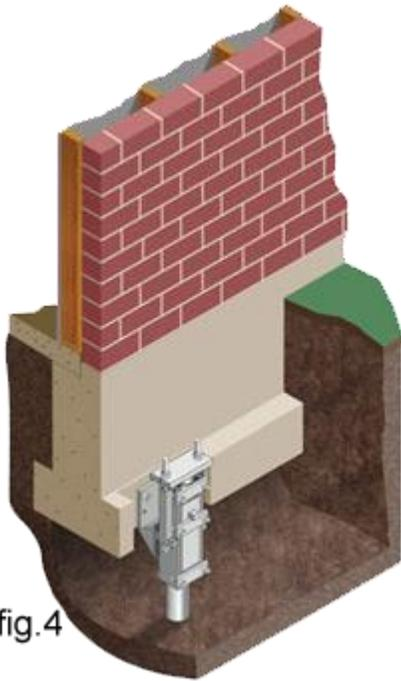

fig.4
8. Restoration: Under careful supervision, the load is transferred from the existing failing strata under the foundation, to the load tested piers. The structure can be transferred gently and evenly lifted to as close to the original elevation or to the recommendation of the engineer. The nuts at the pier caps are secured at each placement and the lifting equipment is removed. . (fig 4)